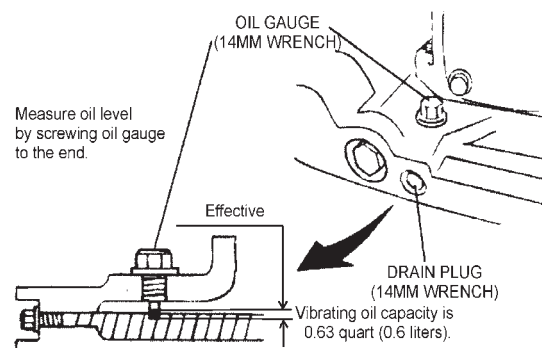

Figure 29. Vibrator Oil Drain and Check Plugs
3. Using a 14 mm wrench remove the vibrator oil drain plug (Figure 29) from the vibrating plate assembly.
4. After vibrator oil has been completely drained from machine, fill with 10W-30 motor oil to the appropriate safe operating level (Figure 29).